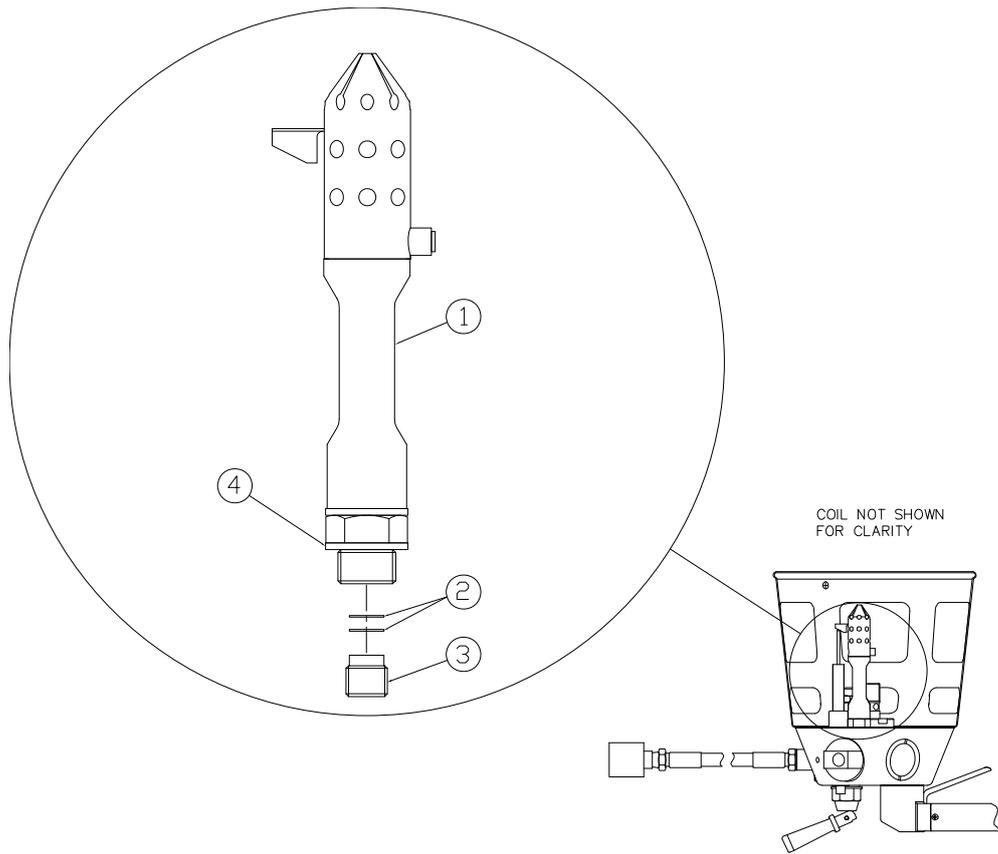

*Figure 4
- Withdraw the Regulator Filter (Item 1) from inside the bore using a suitable sharp pointed tool as shown in Figure 4 below.